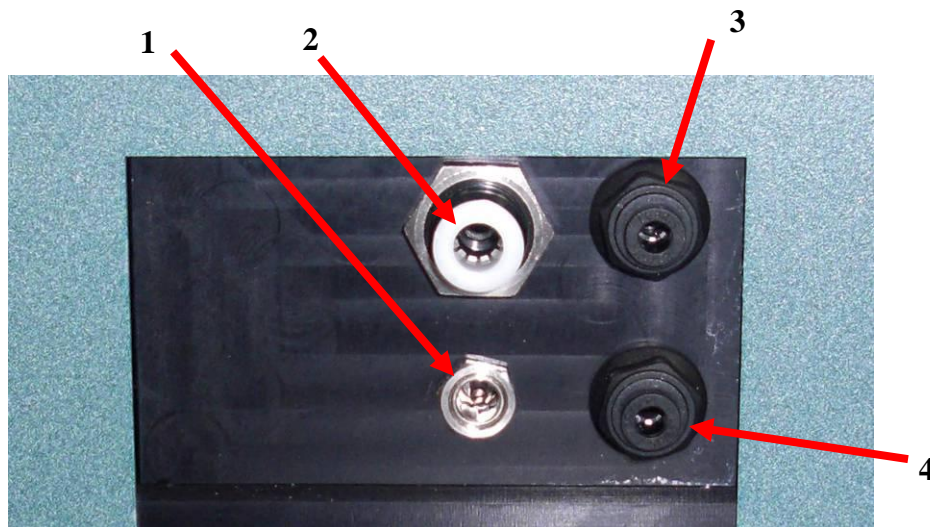

Figure 1 - Rear Panel Layout
- Connect a 1/4" air supply hose to the fitting found on the back of the Automatic Fitting Inserter. The air supply should be free of moisture and contaminants and supplies **80-120 psi**. It is important to have the ability to shut off the air pressure or disconnect from the main air line. A quick-connect coupling or ball valve is recommended. (See Figure 1)